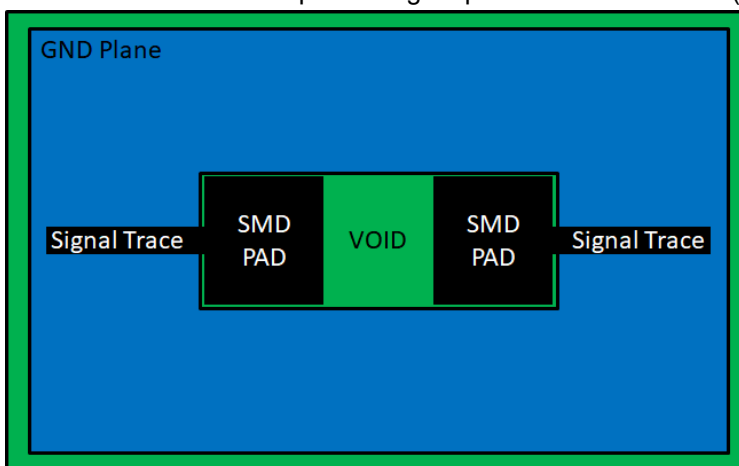

Figure 2-5. Void Below Surface Mount Devices
3. Do not route high-speed traces under or near crystals, oscillators, clock signal generators, switching power regulators, mounting holes, magnetic devices, or integrated circuits (IC) that use or duplicate clock signals.
- Incorporate voids under the ESD/EMI component signal pads to reduce losses (see Figure 2-5).